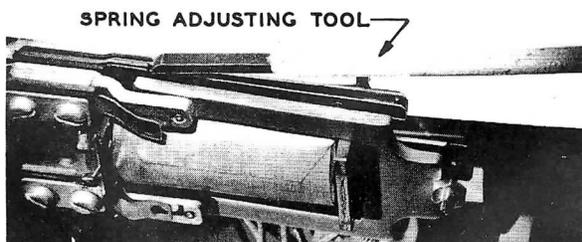

Fig. 4 - Adjusting Springs, UA-112 Relay
3.04 To adjust spring tension, place the spring adjusting tool on each spring just back of the operating stud, and slide back to the base of the spring (Fig. 4).